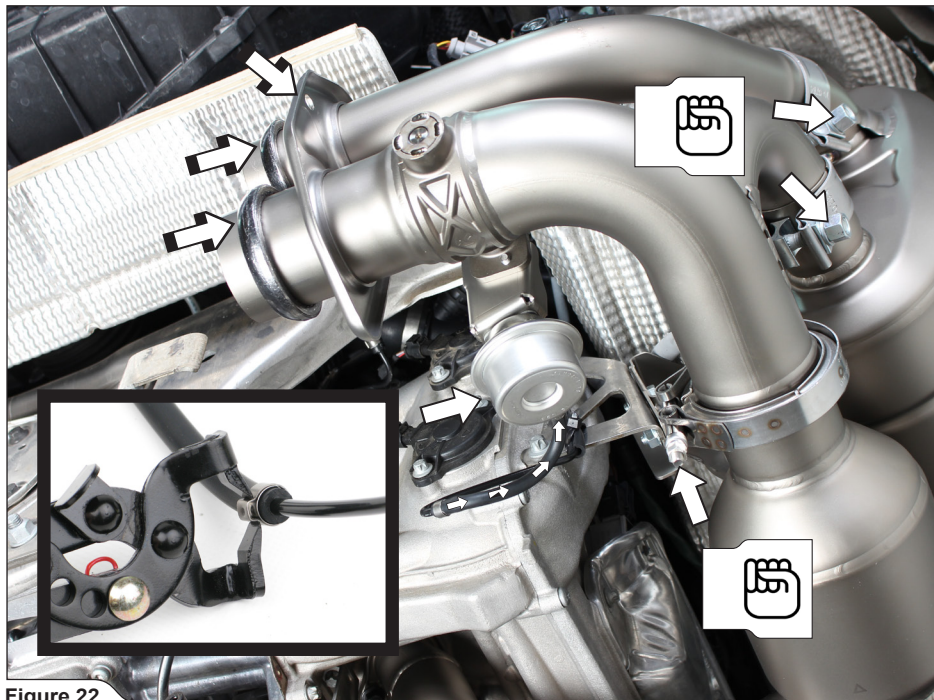

Figure 22
9. Correctly orient and attach right muffler flange and muffler's inlet gaskets, connect the vacuum tubes to the vacuum actuators, as shown (Figure 22).